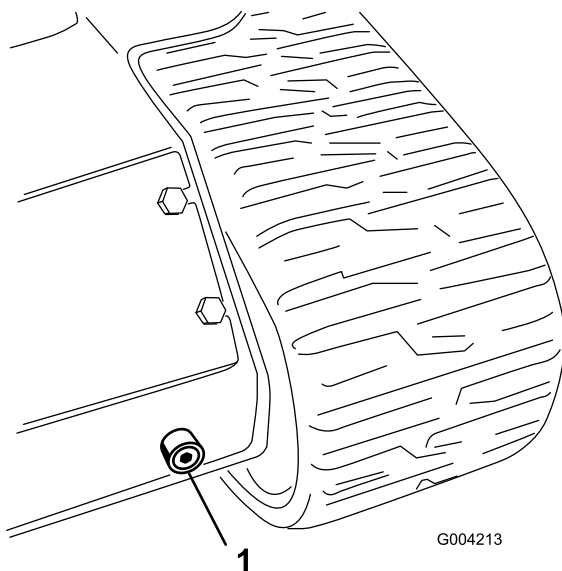

Figure 61
6. Place a large drain pan (capable of holding 15 US gallons) under the drain plug on the front of the traction unit (Figure 61).
7. Remove the drain plug and allow the oil to drain into the pan (Figure 61).
Check the shear bolt (Figure 61) for wear, cracks, or damage every day after approximately 8 operating hours. Replace it if it is damaged.